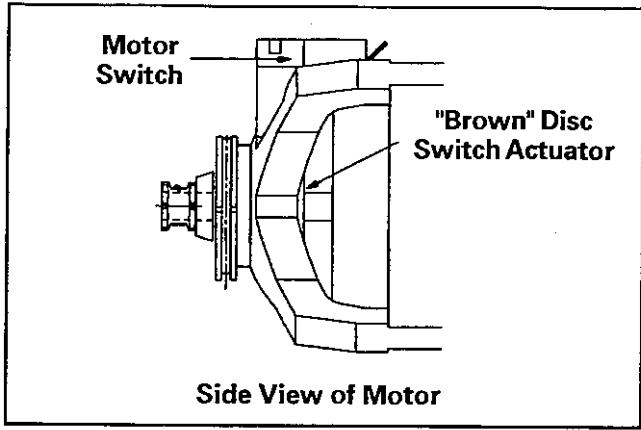

Figure 2-16
3. With your thumbs, press the BROWN disc located behind the motor switch on the motor shaft, (Figure 2-16). The BROWN disc actuates the lever of the motor switch when the motor is at rest. At optimum motor speed, the disc moves away from the switch lever. When the disc is pressed inward toward the windings, the actuator arm of the centrifugal switch will be relaxed. This allows the contacts to close, completing the heater circuit. If no continuity is found when the disc is depressed, change the centrifugal switch.